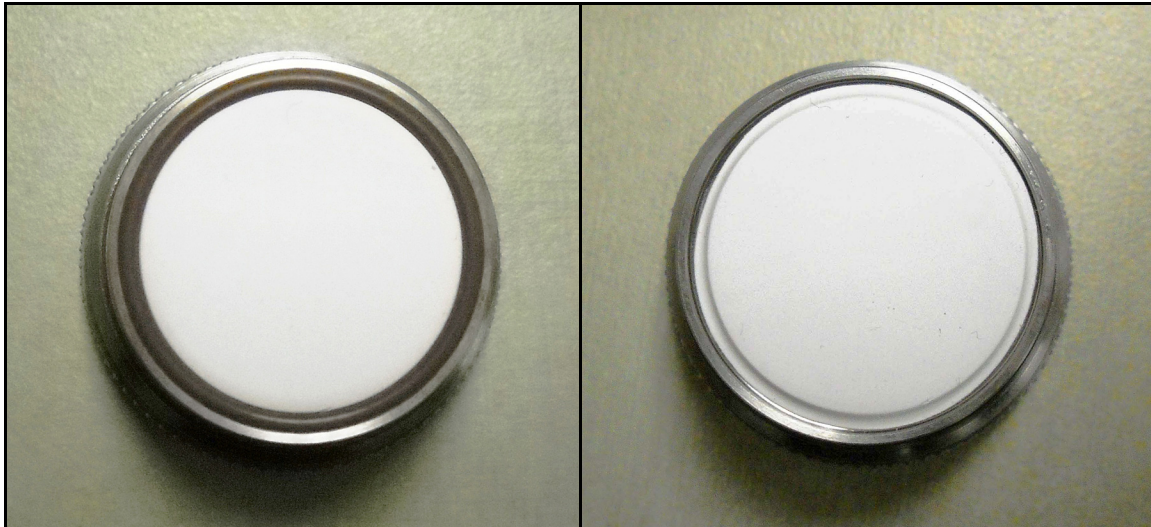

Figure 100: Orient the Filter Cap and Remove the Large O-Ring
4. Carefully remove the large O-ring (see *Figure 100* below).